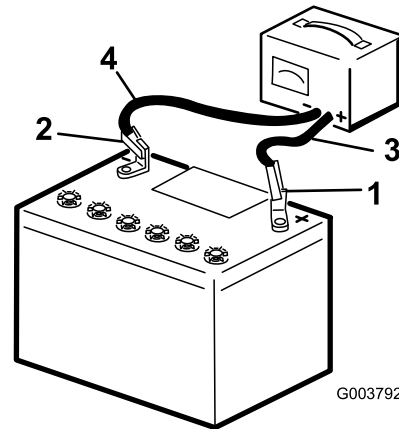

Figure 54
- Charge the battery for 4 to 8 hours at a rate of 3 to 4 A (Figure 54). Do not overcharge the battery.
- When the battery is fully charged, unplug the charger from the electrical outlet, then disconnect the charger leads from the battery posts (Figure 54).